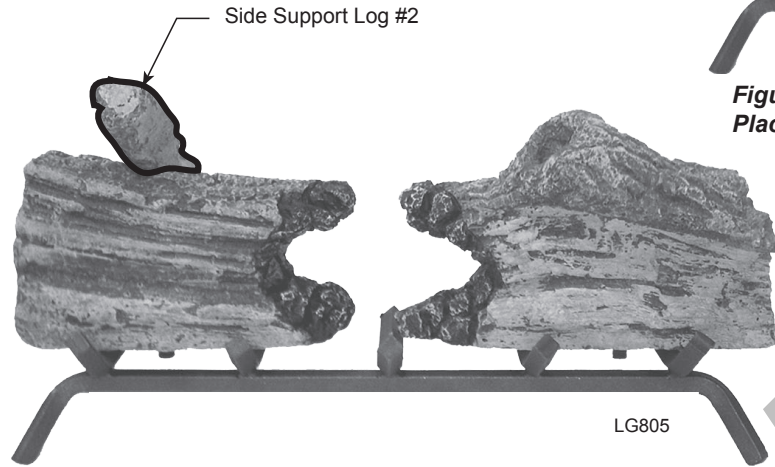

Figure 36 - Place Side Support Log #2 on Top Left of Log #1a
3. Place front end of Side Support Log #2 on top left of Log #1a. Rest other end of Log #2 on rear grate bar. *Figure 36*